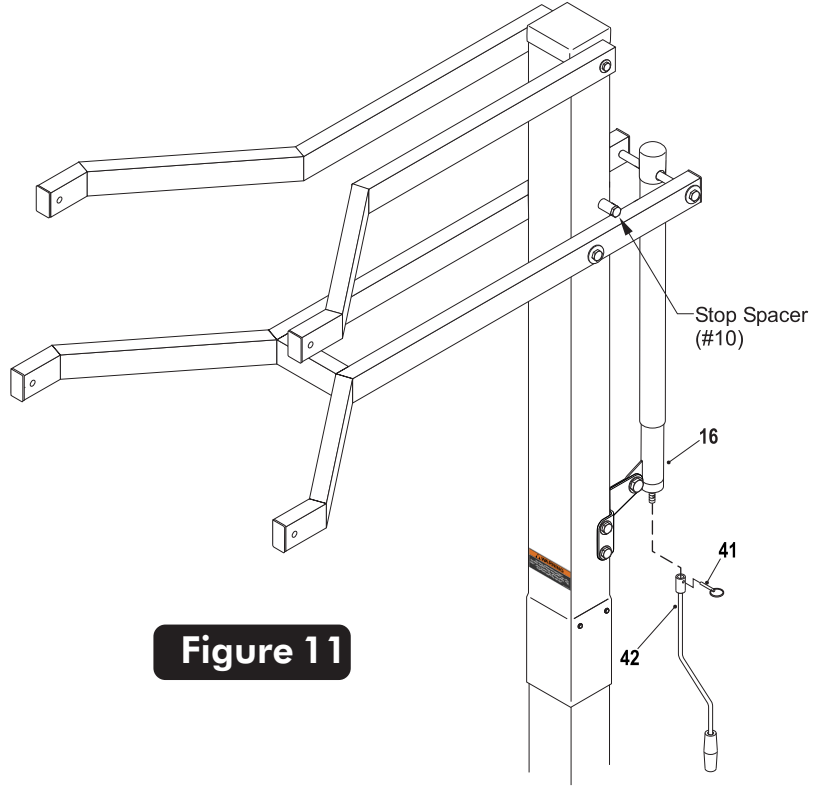

Figure 11
16. Slide Actuator Crank (#42) onto shaft on the bottom of Actuator (#16). Line up hole in shaft with hole in Actuator Crank and insert Pin (#41) to secure. See Figure 11.